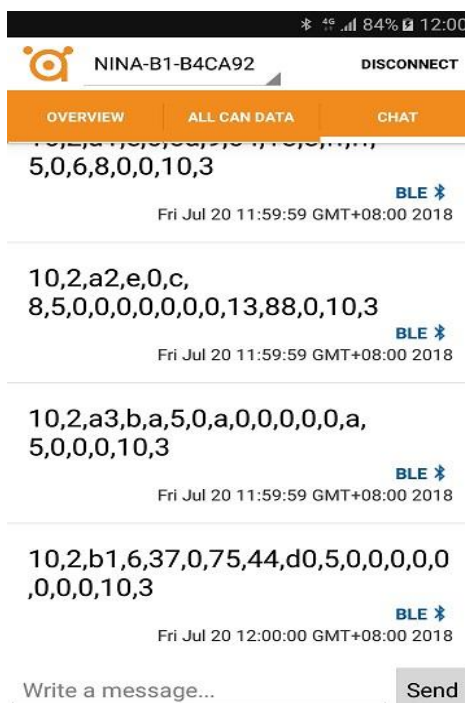

Figure 5
6. CAN bus data appears by hex data format and in a row by data scrolling as Figure 5.